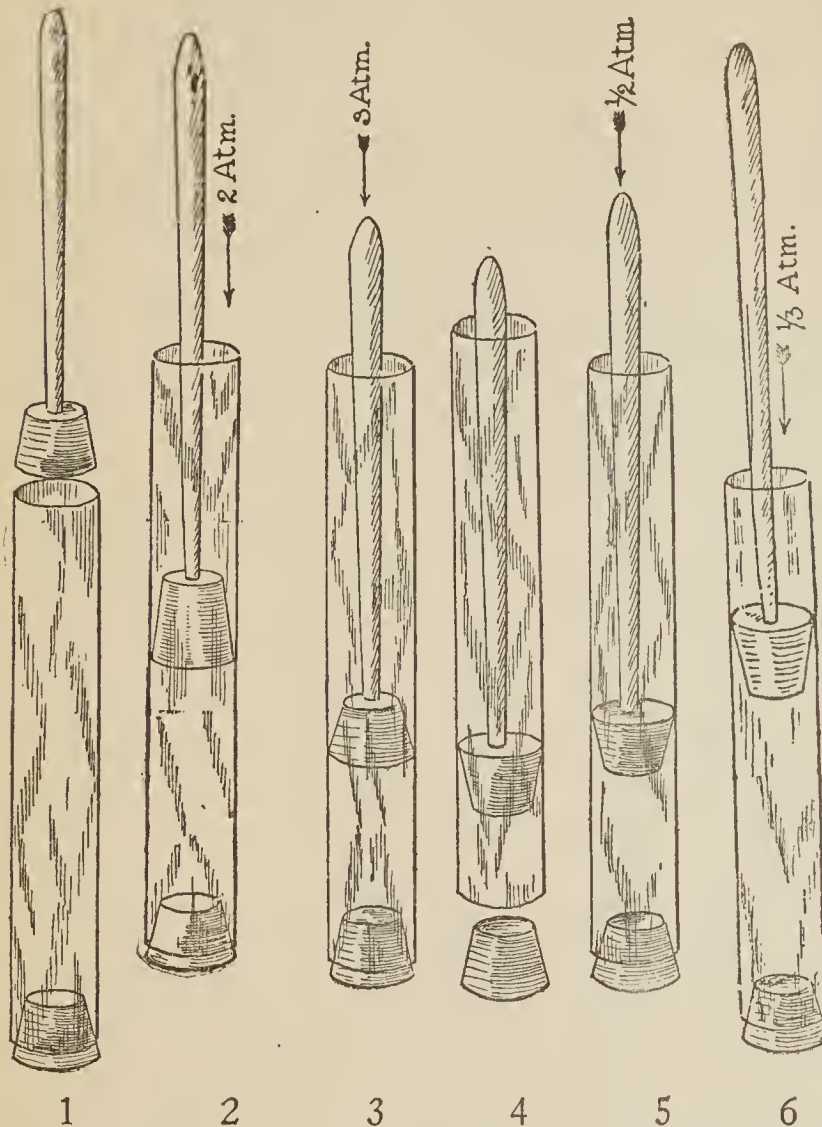

Fig. 152.—The Volume of a Gas Varies Inversely as a Pressure on it
Boyle's law is: **The volume of a gas varies inversely as the pressure on it.** This is illustrated in Fig. 152. In (1) the tube is full of air and the pressure on the air is one atmosphere because the tube is open to the atmosphere. In (2) the pressure on the air is 2 atmospheres and the volume of the air is  $\frac{1}{2}$  what it was in (1). In (3) the pressure on the air is 3 atmospheres and